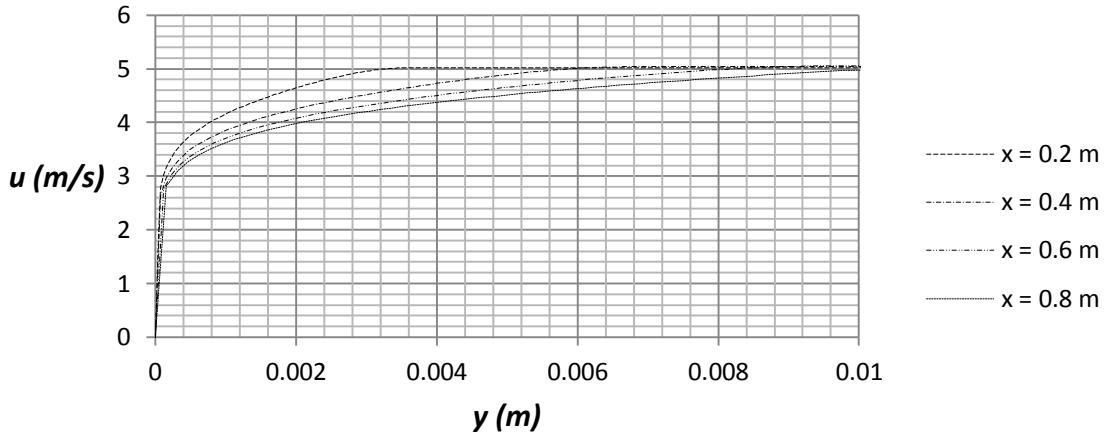

Figure 2.30a) Flow Simulation comparison between turbulent boundary layers at $Re_x = 10^6 - 4.1 \cdot 10^6$
32. Place the file “xy-plot figure 2.30a)” into the **Local Disk (C:/Program Files /SolidWorks Corp/SolidWorks Flow Simulation/lang/english/template/XY-Plots** folder to make it available in the **Template** list. Repeat step 24 and choose the sketch **x = 0.2, 0.4, 0.6, 0.8 m** and check the box for **Velocity (X)**. Rename the xy-plot to **Turbulent Velocity Boundary Layer**. An Excel file will open with a graph of the streamwise velocity component versus the wall normal coordinate, see figure 2.30a). We see that the boundary layer thickness is much higher than the corresponding laminar flow case. This is related to higher Reynolds number at the same streamwise positions as in the laminar case. The higher Reynolds numbers are due to the selection of water as the fluid instead of air that has a much higher value of kinematic viscosity than water.
As an example, the turbulent boundary layer thickness from figure 2.30a) is 4.45 mm at $x = 0.2$ m which can be compared with a value of 4.44 mm from equation (4), see table 2.5.
2.6 Determine the displacement thickness, momentum thickness and shape factor for the turbulent boundary layers in figure 2.30a) and determine the percent differences as compared with empirical data.